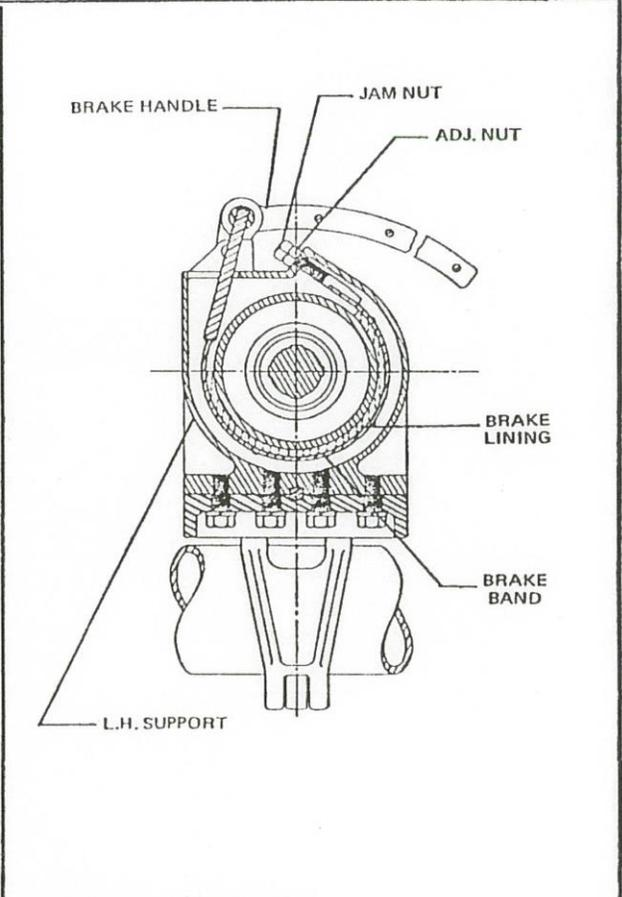

FIG. 3 BRAKE ASSEMBLY
*Brake Adjustment.* The AW-80 may be furnished with brake construction as shown in Fig. 3. To adjust the brake, loosen the jam nut and tighten the adjustment nut to take up on the brake band. Take up on the brake band only enough to prevent the load from slipping when the brake handle is locked down. When released, the brake band should not drag on the drum.
**Relining Brake.** To reline the brake, remove the L.H. support as previously explained. Disassemble the brake handle and unscrew the adjusting pin (see Fig. 3). Remove the jam nut anchoring the brake band to the support and remove the brake band. After removing the worn out lining and rivets, clamp the new lining (part number is given in parts list) to the brake band and transfer the holes in the band to the new lining. Remove the lining from the brake band, then countersink the holes on the inside face to one-half the thickness of the lining so the rivets cannot touch the drum. Rivet the lining to the brake band using rivets of the type specified in the parts list. Reassemble the brake to the support, then replace the assembly on the frame.